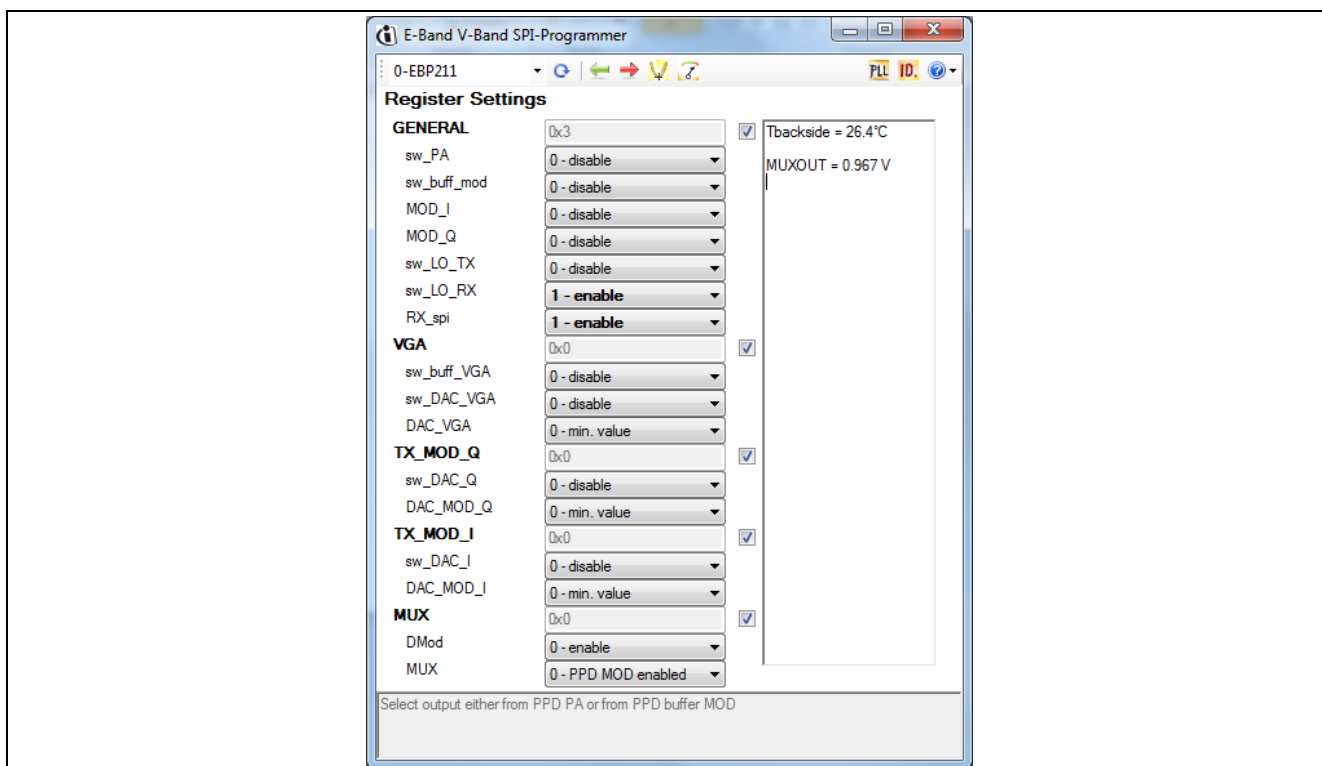

Figure 25 Typical Receiver Settings for BGT60
- 2) Then in the main window enable the registers as shown in **Figure 25**. The supply current will jump to 427 mA.